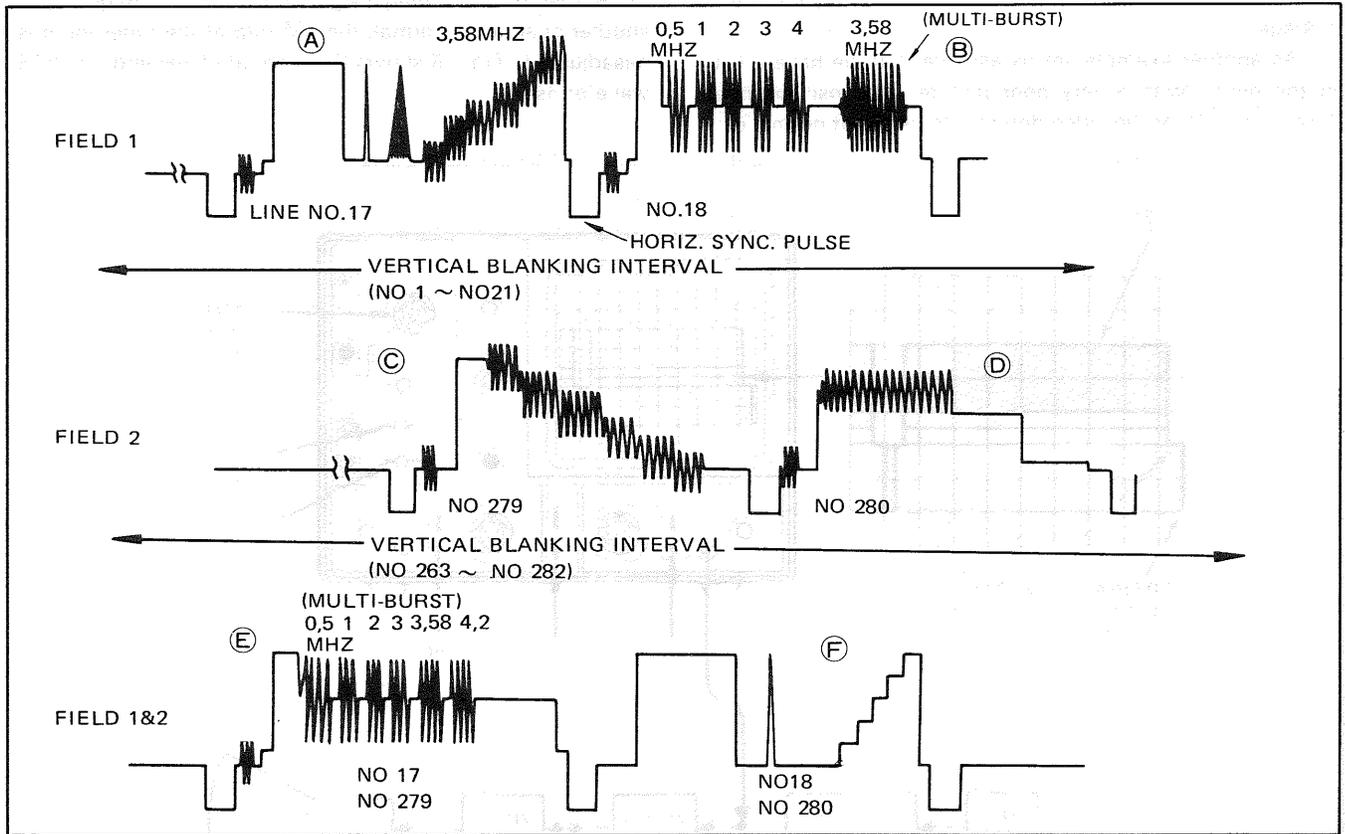

Fig. 13. VITS signal, Fields 1 and 2
Many television servicing procedures can be performed using single-trace operation. These are outlined later in the application section covering single-trace operation. One of these procedures, viewing the multi-burst signal in the VITS (vertical interval test signal), can be accomplished more effectively using a dual-trace oscilloscope. The VITS signal is specifically used for characteristic checks of the transmission system of a broadcast station or a network including repeater stations or for changeover of transmission system. In many cases, this signal does not appear in the normal video signal. Even when it is included in the signal, the method of inserting the information differs depending on the broadcast station. Also, the VITS information in Field 1 (1st interlaced scanning) and Field 2 (2nd interlaced scanning) are different in many cases. Examples of VITS signals are shown in Fig. 13.
9. Set the SWEEP TIME/DIV control to the 0.1ms position to expand the display. The VITS information will appear toward the right hand portion of the expanded waveform displays. The waveform information on each trace may appear as shown in Fig. 13. Because there is no provision for synchronizing the oscilloscope display to either of the two fields which comprise a complete vertical frame, it cannot be predicted which field display will appear on CH1 or CH2.
10. Pull the ◀▶ POSITION control outward to obtain an additional X 5 magnification. Rotate the control moving the trace to the left until the expanded VITS information appears as shown in Fig. 13. Because of the low repetition rate and the high sweep speed combination, the brightness level of the signal displays will be reduced.